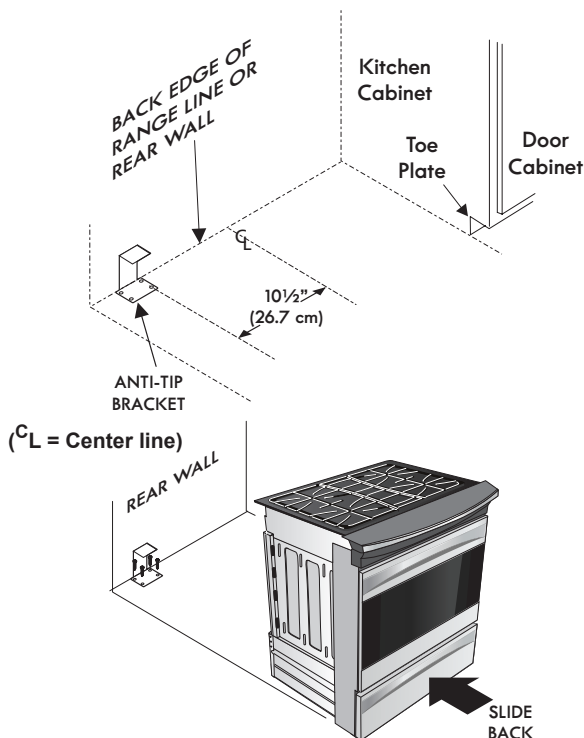

Figure 18
1. Draw a center line (CL) on the floor where the range should be installed. Also draw a line on the floor at the range back position if there is no wall.
2. Unfold paper template and place it flat on the floor with the right rear corner positioned exactly on the intersection of the center and back lines you just drew before. (Use the diagram below to locate brackets if template is not available (Figure 18)).